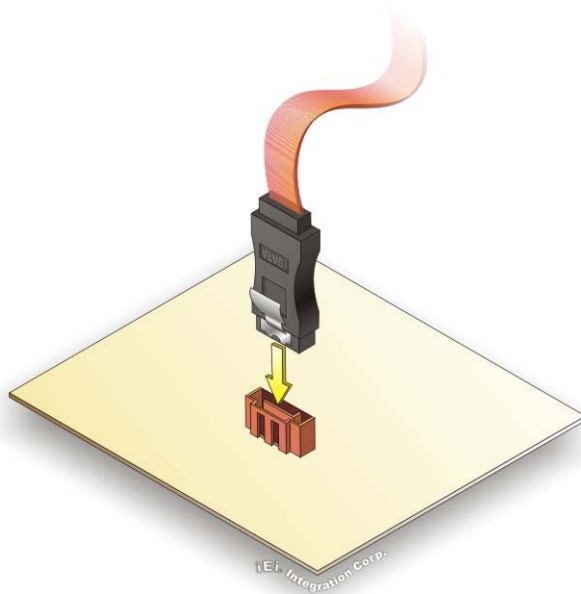

Figure 4-15: SATA Drive Cable Connection
Step 2: Insert the cable connector. Insert the cable connector into the on-board SATA drive connector until it clips into place. See **Figure 4-15**.